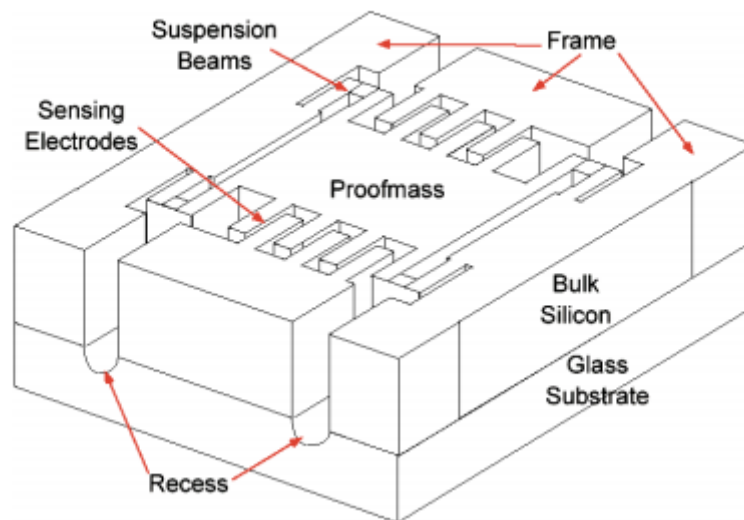

Figure 2
- 2. (a) (i) Explain the fabrication processes of an accelerometer based on Figure 2.